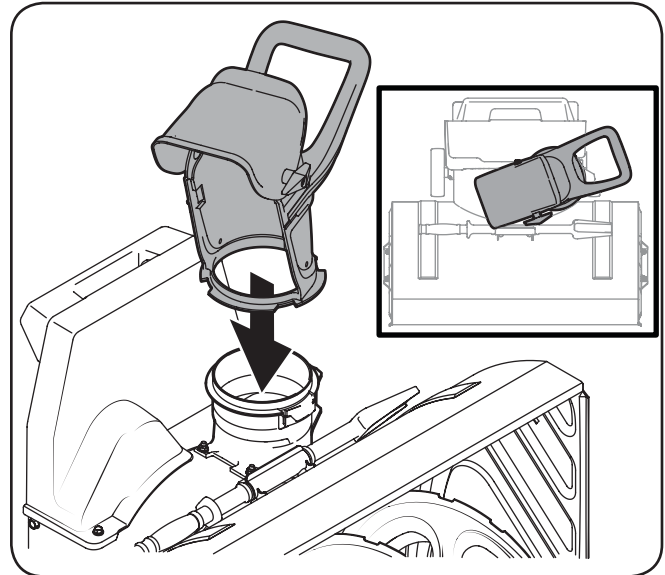

Figure 3-3
2. Install the discharge chute, packed loose in the carton, onto the snow thrower attachment, as shown in Figure 3-3.